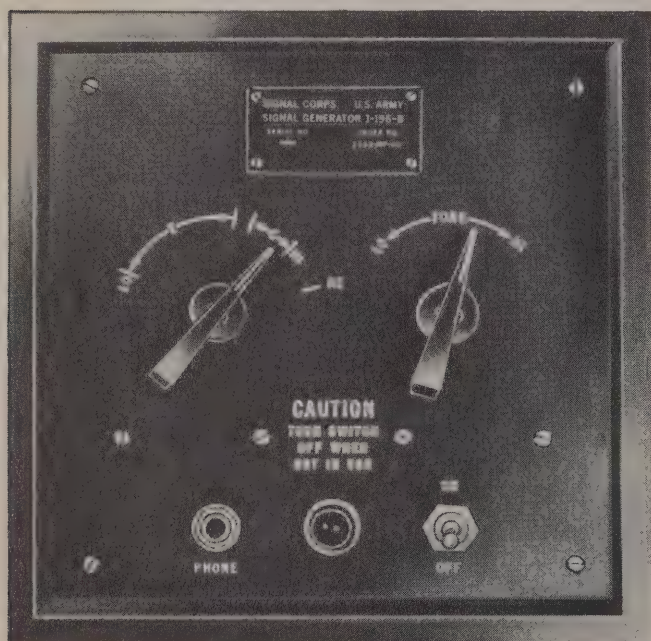

Figure 4-1. Signal Generator I-196-B
(1) The signal generator is a self-pulsing radio-frequency oscillator, the oscillation frequency of which may be changed by means of a variable capacitor to obtain complete coverage of the "A" (alternatively designated as the "I") and the "G" frequency bands. The pulse rate may be varied by means of a rheostat and can be heard in headphones plugged into the PHONE jack.
(2) The signal-generator panel is shown in Figure 4-1. The tuning-knob scale is marked at the higher and lower limits of both the "I" (or "A") and "G" bands. The quenching-frequency control is labeled TONE. There is also an OFF-ON switch, a PHONE jack, and a pilot light.
(Refer to Figure 4-1.)